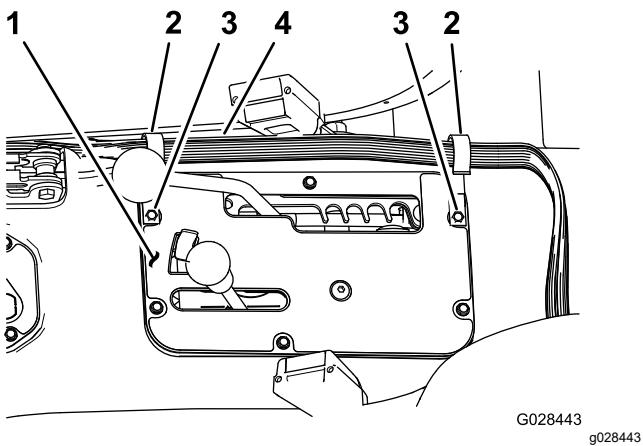

Figure 21
- Install 2 J-clips in the center console at the points located in Figure 20 or Figure 21 using the existing screws.